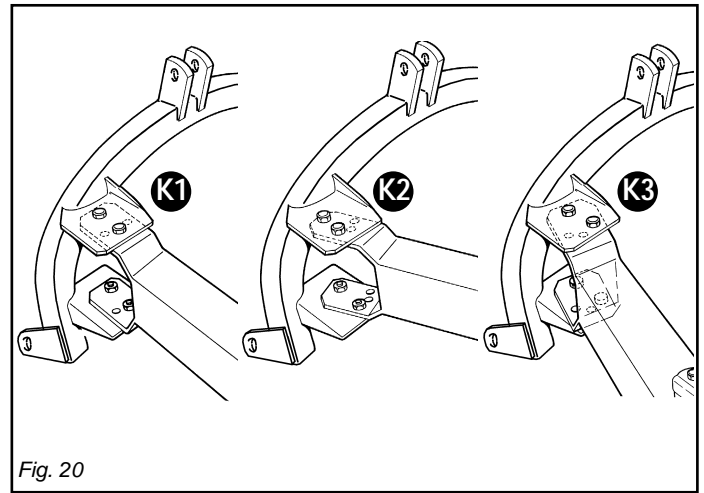

Fig. 20
- hitching to a tractor normally used for mowing jobs (K1, Fig. 20);
- hitching to a large tractor (K2, Fig. 20);
- hitching to a small tractor or to certain types of tracked vehicle (K3, Fig. 20).